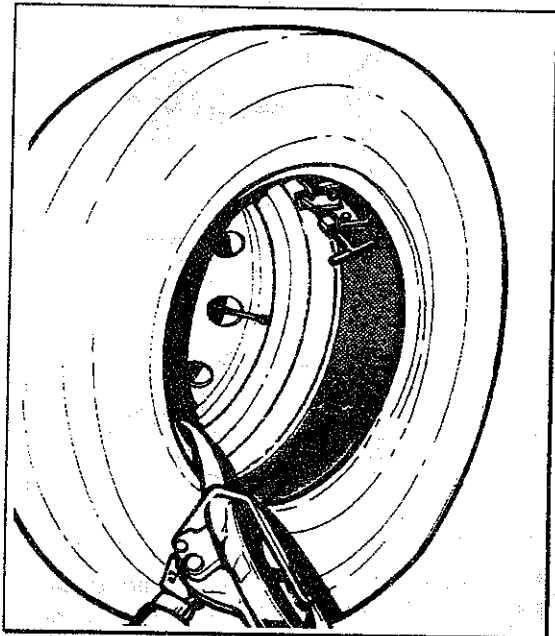

Fig.34
1. Hang the inner bead of the tire on the mounting clamp (Fig.34).